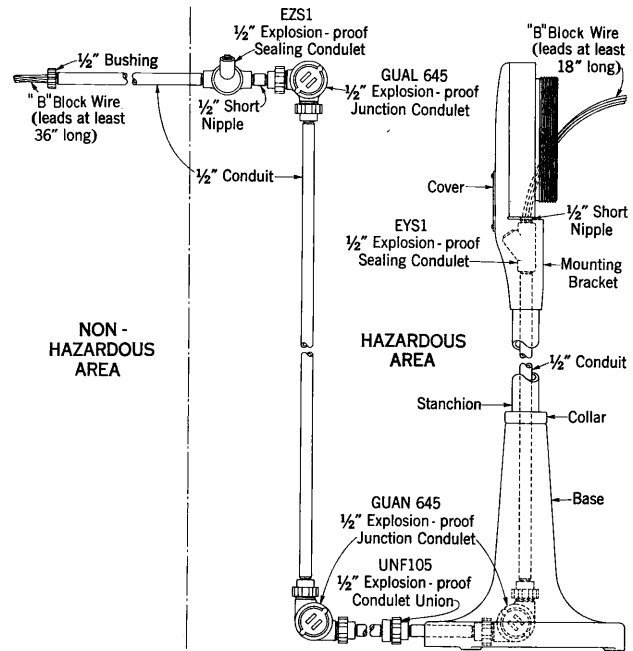

Fig. 3 — Desk Installation Using 5A Pedestal
2.06 The 320-type telephone set is designed for wall or pedestal mounting. The 166A backboard is used for wall installations. The 5A pedestal is used for desk installations (see Fig. 3).